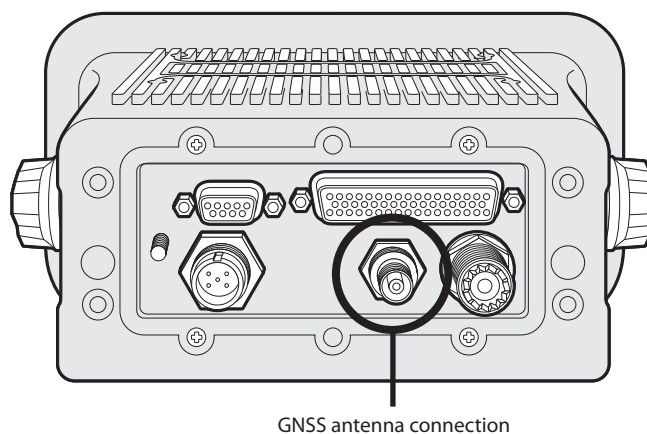

Figure 40 GNSS antenna connection
- Connect the GNSS antenna cable to the GNSS connector on the AIS transceiver as shown in Figure 40.
If antenna connections have not already been made the GNSS and VHF antennas should now be connected to the transceiver. Refer to Figure 40 and Figure 42 for guidance.